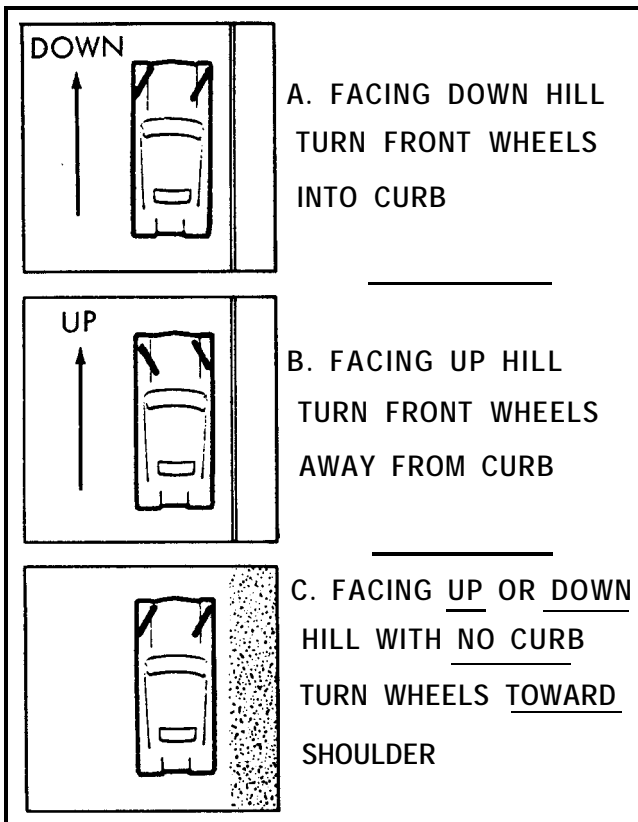

FIGURE 23
b. **Parking on a Hill.** When parking on a hill, set the brakes and leave the vehicle in gear. When possible, the front wheels should be turned in toward the curb, so as to use the curb as a wheel chock (Figure 23). When no curb exists, turn the wheels so the car would roll away from the road if it broke loose while parked.